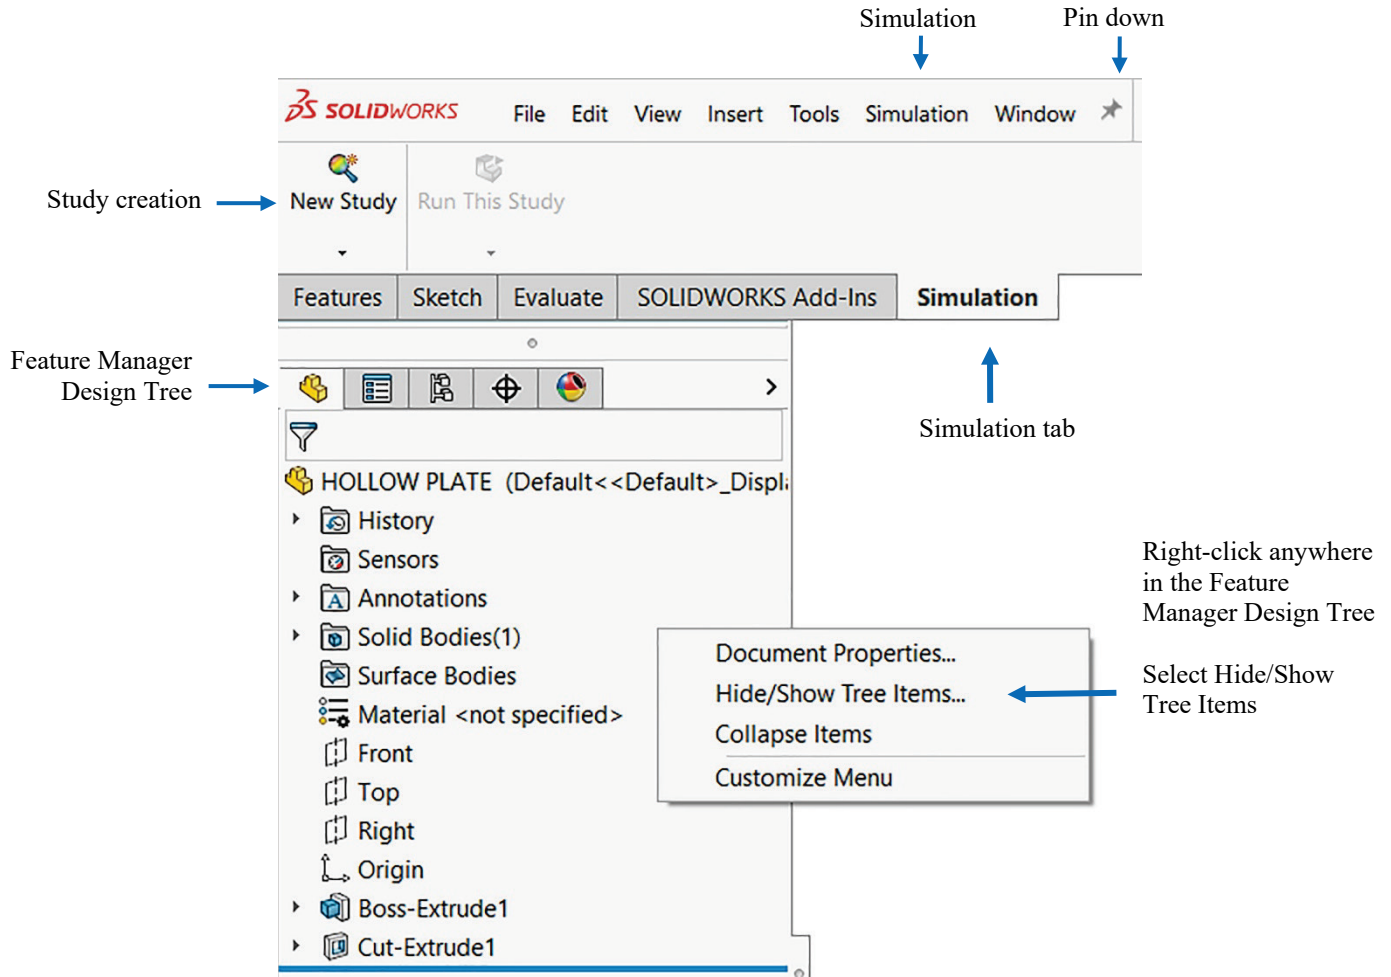

Figure 2-3: The Simulation tab is a part of the SOLIDWORKS Command Manager.
Notice that **Feature Manager Design Tree** shown in Figure 2-3 displays **Solid Bodies** and **Surface Bodies** folders. These folders can be displayed by right-clicking anywhere in **Feature Manager Design Tree** to bring up the pop-up menu and selecting **Hide/Show Tree Items**. This will invoke **System Options-Feature Manager** (not shown here). From there, **Solid Bodies** and **Surface Bodies** folder can be selected to show. We will need to distinguish between these two different bodies in later exercises. In this exercise these two folders do not need to show.
*Like the Simulation Command Manager shown in Figure 2-3, only the New Study icon is available. Notice that some commands are available both in the Command Manager and in the Simulation menu.*
Creation of an FEA model starts with the definition of a study. To define a new study, select **New Study** in either the **Simulation** tab in the Command Manager (Figure 2.3) or **Simulation** main menu (Figure 2-4). This will open the **Study Property Manager**. Notice that the **New Study** icon in the **Simulation** Command Manager can also be used to open the **Study Advisor**. We won't be using the **Study Advisor** in this book. Name the study *tensile load 01* (Figure 2-6).